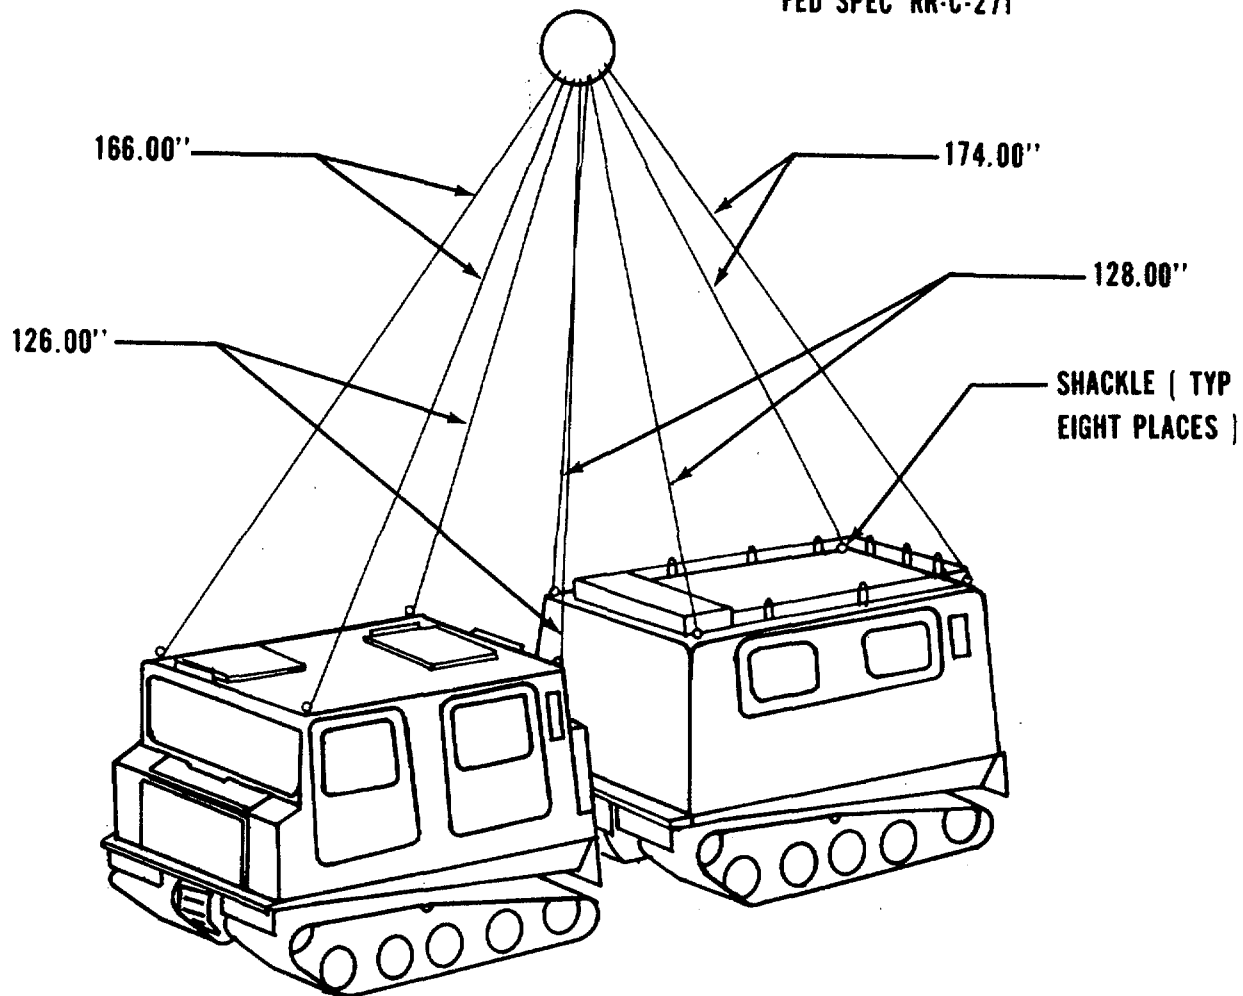

Figure 6-1. Lifting diagram for the M973, using an eight-legged sling.
b. *Lifting.* Correct lifting points on the carriers are the lifting eyes located at the upper four corners of each car (total of eight). A typical lifting diagram is shown in figure 6-1.